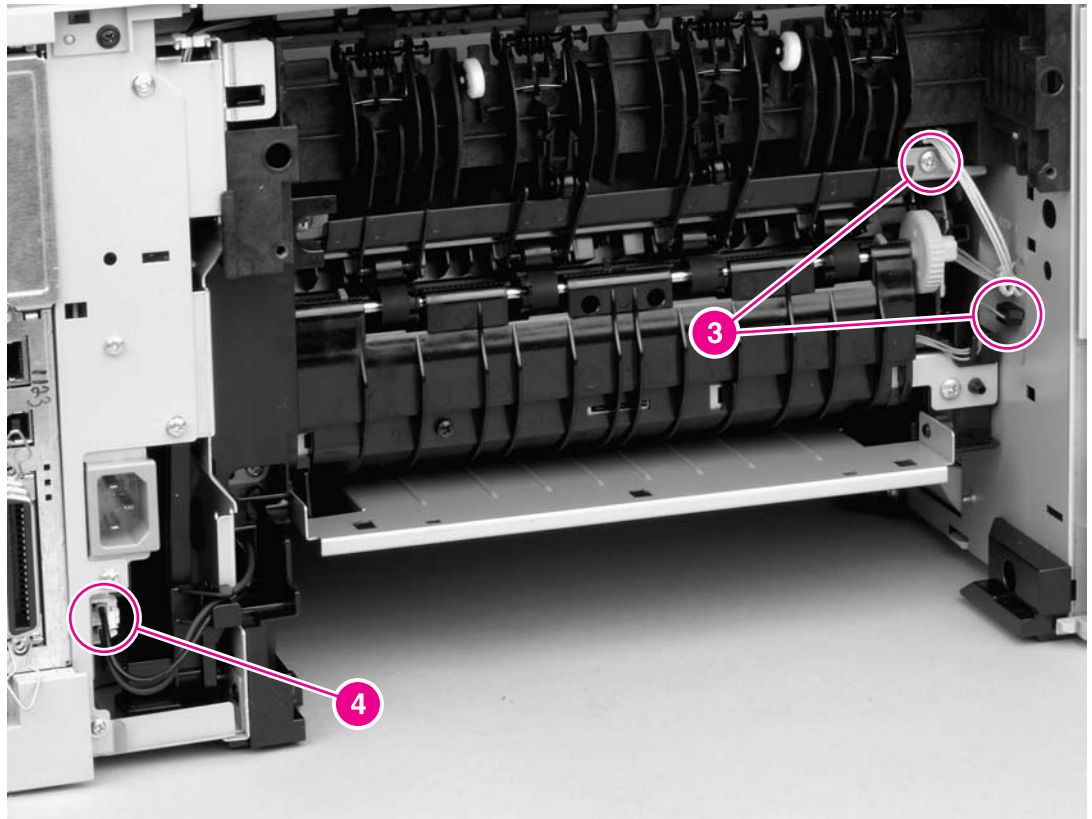

Figure 6-21. Removing the fuser (3 of 5)
5. Disconnect the fuser cable (see callout 4 in Figure 6-21. Removing the fuser \(3 of 5\)).